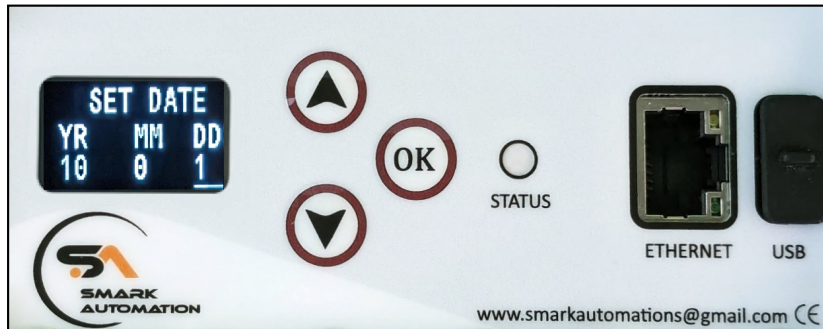

Figure 17: Configuring Date
- **Set date:** User will then be prompted to set the date (date, month, year) as shown in Fig 17. Follow the same procedure as did for setting the time.